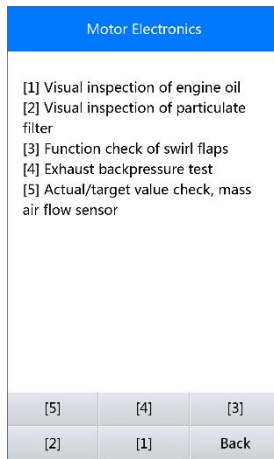

Figure 5-32 Sample Particle Filter Tests
- 1) Select **[1]** and **OK** button from the particle filter test menu (Figure 5-32).
- 1) Select **[2]** and **OK** button from the particle filter test menu (Figure 5-32).
- 1) Select **[3]** and **OK** button from the particle filter test menu (*Figure 5-32*).
- 1) Select **[4]** and **OK** button from the particle filter test menu (*Figure 5-32*).
1) Select **[5]** and **OK** button from the particle filter test menu (Figure 5-32).